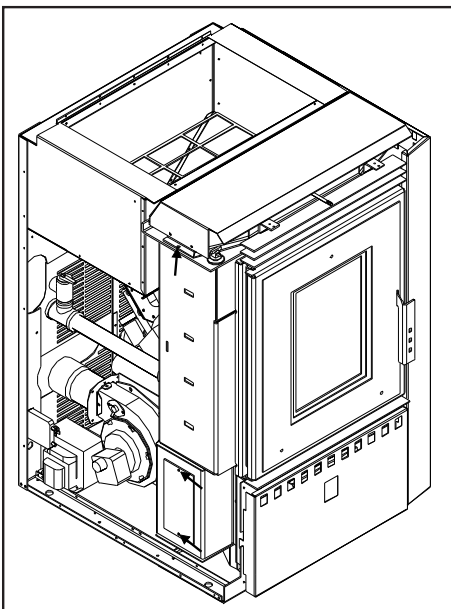

Figure 12
3. Remove the heat exchanger cover from the top of the stove by removing the screw on each side shown in Figure 12.
7. With the cab sides removed, you will see a clean-out cover on each side (see Figure 12), remove the two (2) T-20 screws from the cover. Vacuum out all ash from behind the cover.